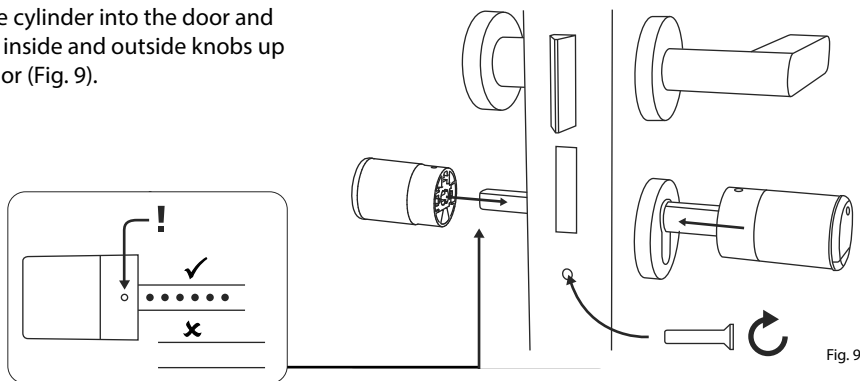

Fig. 9
- ⑥ Screw the cylinder into the door and push the inside and outside knobs up to the door (Fig. 9).